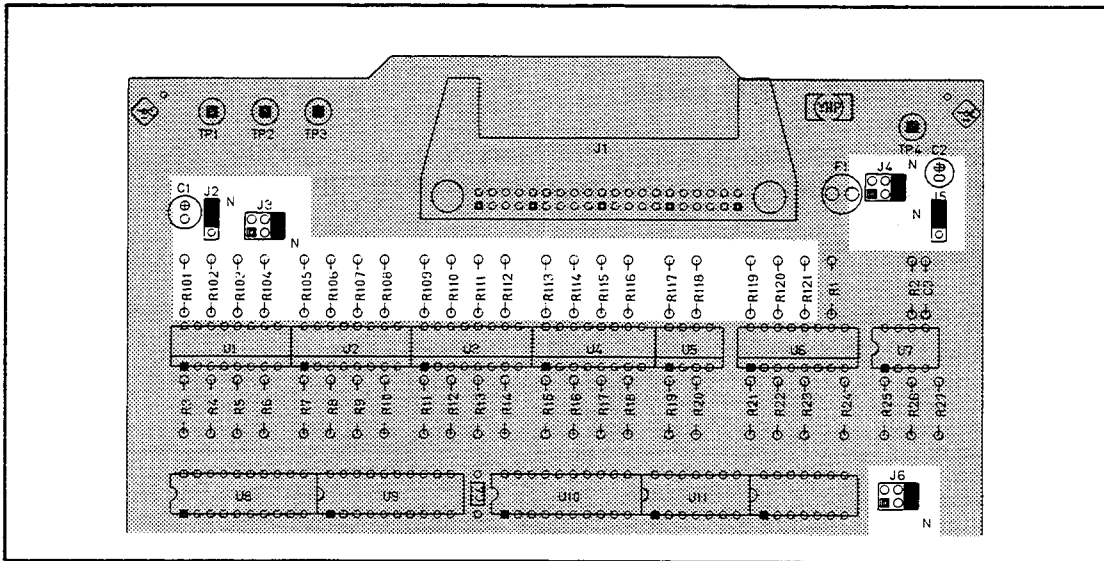

Figure 6-11. Jumper Settings
(2) ORANGE and RED (See Figure 6-11)